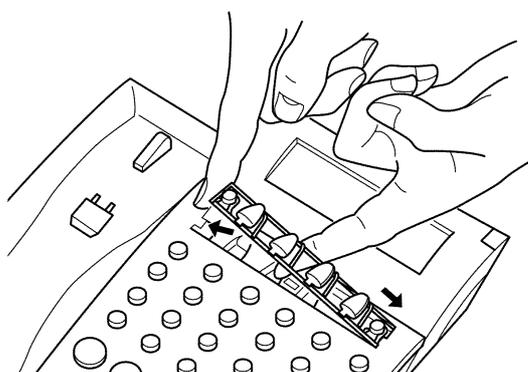

Figure 6-15 Removing Softkeys
1. Remove the softkeys by pulling the softkey plate upward as shown in Figure 6-15 Removing Softkeys.